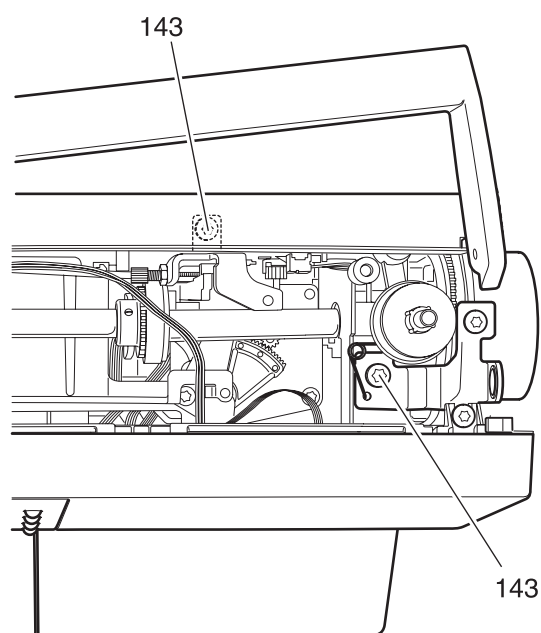

Fig. 87a
- Turn out the screws 143 of the SD motor unit (fig. 87a).
- Tighten the fastening screws 143 of the SD-motor unit (fig. 87a).